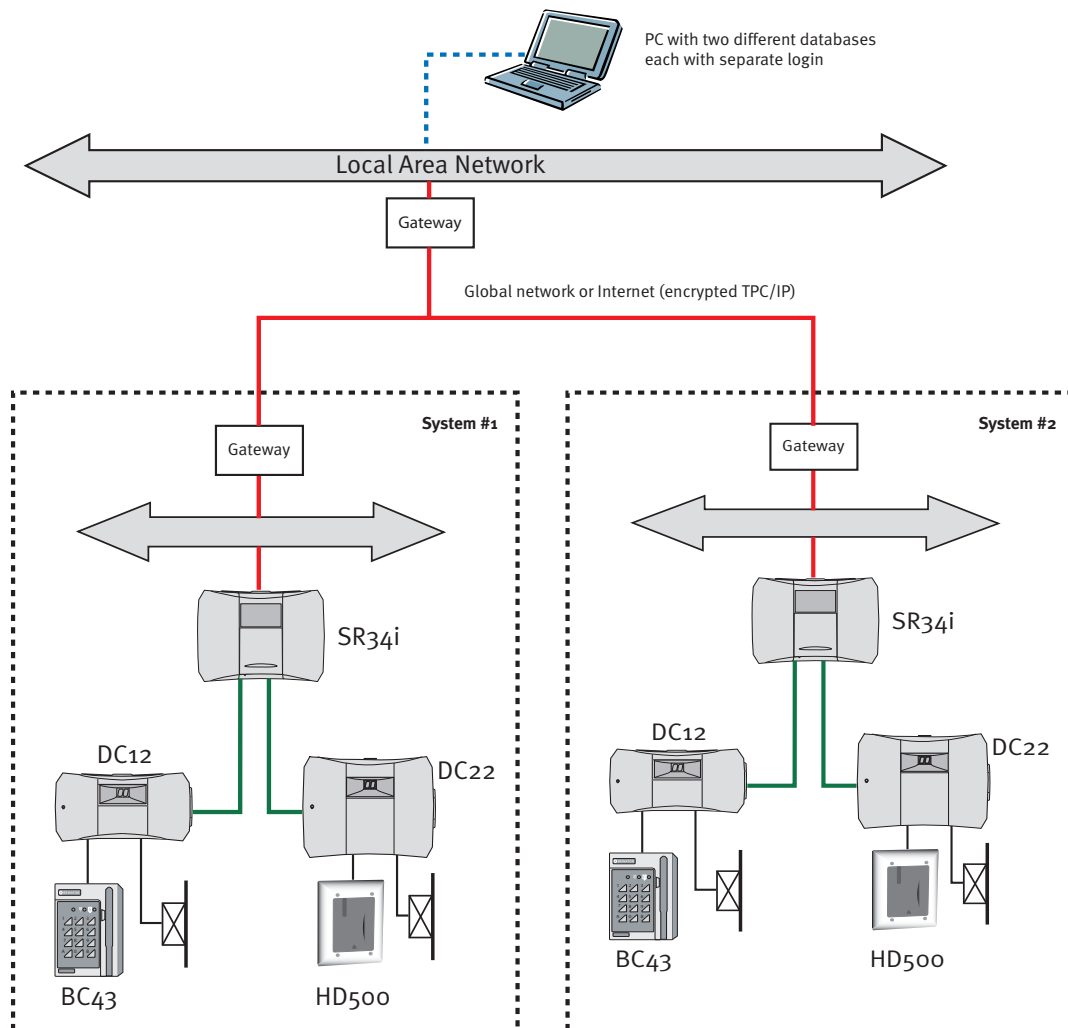

Figure 4 – Network connected PC for two separate Bewator Entro
- In some cases only a central PC can manage different, unique systems in different facilities. This can be obtained via modem or LAN. See Figure 4 – *Network connected PC for two separate Bewator Entro*.